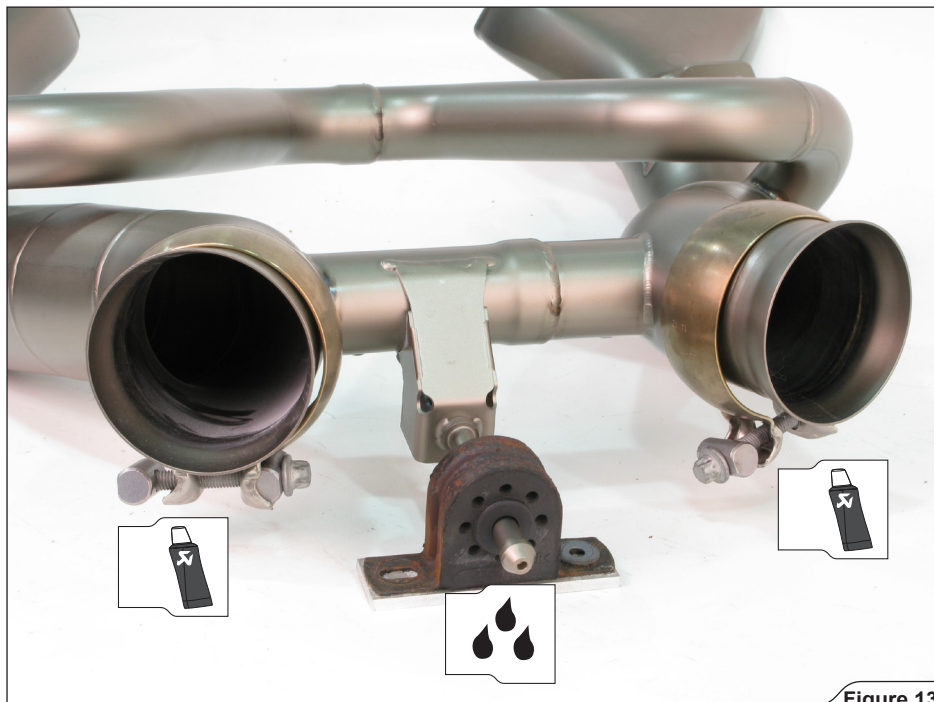

Figure 13
3. Correctly orient the stock clamps and install them onto the muffler's inlets. Slide the stock rubber bracket onto the muffler's pin (**Figure 13**).